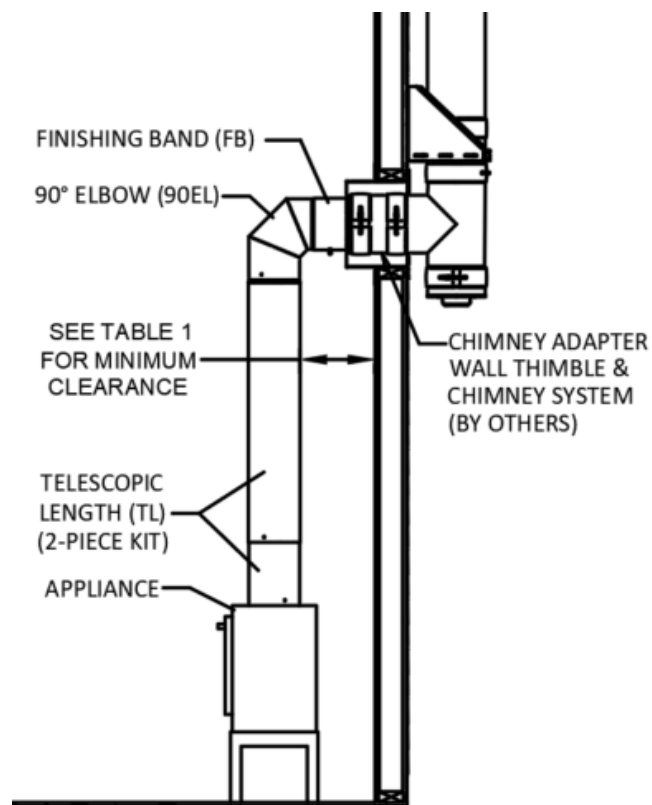

Fig 2D. Through the Wall
- Prefabricated Chimney – Through-the-Ceiling Installation with Offset (See Figure 2D)